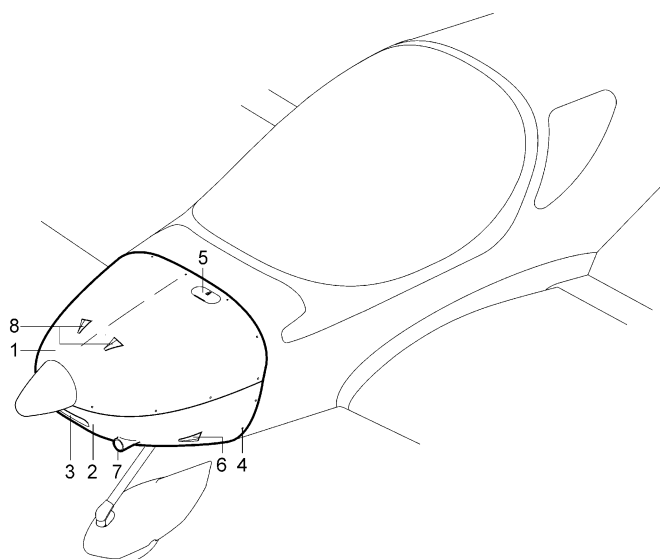

Fig. 10-2: Engine cowling
The engine cowling (Fig. 10-2) consists of two parts: upper cowling and lower cowling. The upper cowling (1) is attached by means of quick fasteners (4) to the firewall and to the lower cowling (2). Unlock the quick fasteners by turning the bolt by 90° counter-clockwise. The access cover (5), which is located on the upper cowling on the left in front of the firewall enables to check oil quantity in the oil tank without removing the upper cowling.